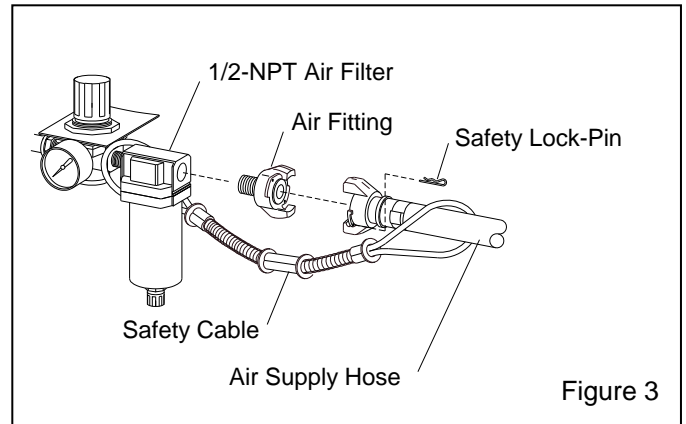

Figure 3
2.1.4 Apply thread sealant to the male threads of an air fitting that is compatible with the air supply hose fitting, as noted in Paragraph 2.1.2, and install it onto the 1/2-NPT air filter as shown in Figure 3. Note that the style of connection shown is for reference only.